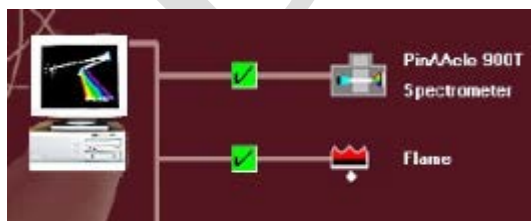

Fig. 9
3.1.11 Self-diagnose will be conducted. All boxes will be ticked if the diagnose passed (fig.9). Contact LFST if not.